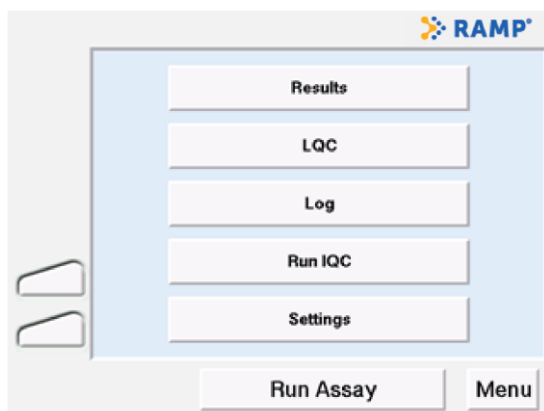
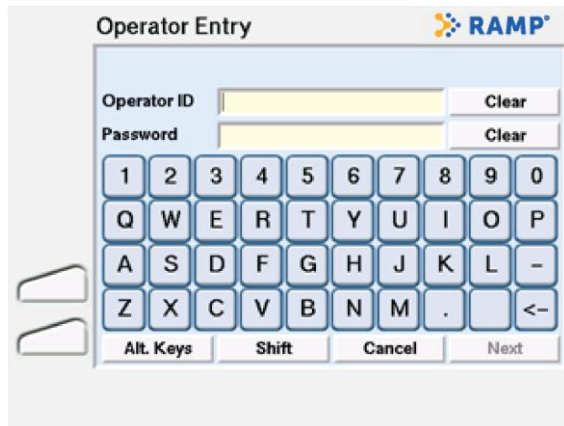

Figure 6 Main Menu Screen
Figure 7 Operator Entry Screen
The Control Module is controlled using the interactive touchscreen. Once the Home screen is displayed, selections can be made by touching the appropriate prompt on the display (i.e., **Run Assay** to initiate a RAMP® Test, or **Menu** to go to the Main Menu) (*Figure 6*).
The default setting of the RAMP® 200 does not require an Operator ID or Password. These requirements can be edited via **Edit Operator** in the Settings menu or the RCU. If using the RAMP® 200 with default settings, *Figure 7* will not appear.
- 1 From the **Main Menu** screen (*Figure 6*) select **Run Assay**. If prompted, enter Operator ID and/or Password (*Figure 7*) using either the touchscreen or the barcode scanner. To accept the displayed information, touch **Accept**.
- 1 From the **Main Menu** screen (Figure 6) select **LQC**. The **LQC – Assay List** screen is displayed (Figure 10).
- 2 Select the Assay for which LQC will be performed. Touch **Run LQC**, located at the bottom of the screen. If prompted, enter the Operator ID and Password (*Figure 7*), if required, using either the touchscreen keyboard or the barcode scanner. To accept the displayed information, touch **Accept**.